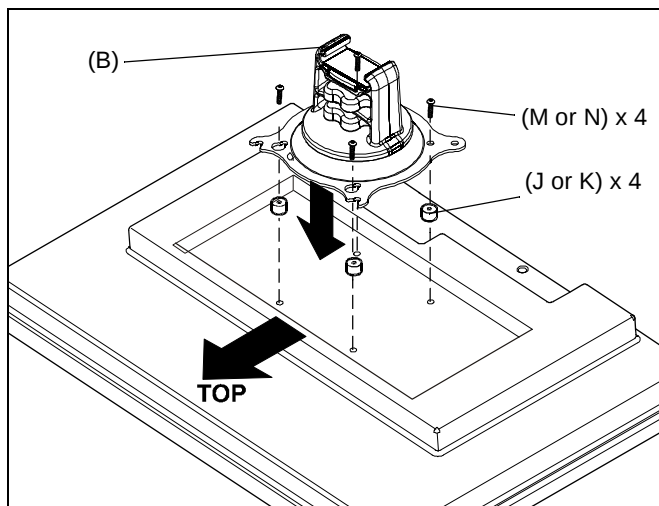

Figure 9
5. Pick up and orient the Centris bracket (B) so that the mounting holes are aligned with the holes in the spacers; rotate the Centris bracket as required. (See Figure 9)
6. Using Phillips screwdriver, install four selected screws (M or N) through the mounting holes in Centris bracket, through the spacers (J or K), into the display. (See Figure 9) Tighten all four screws. Do not overtighten!